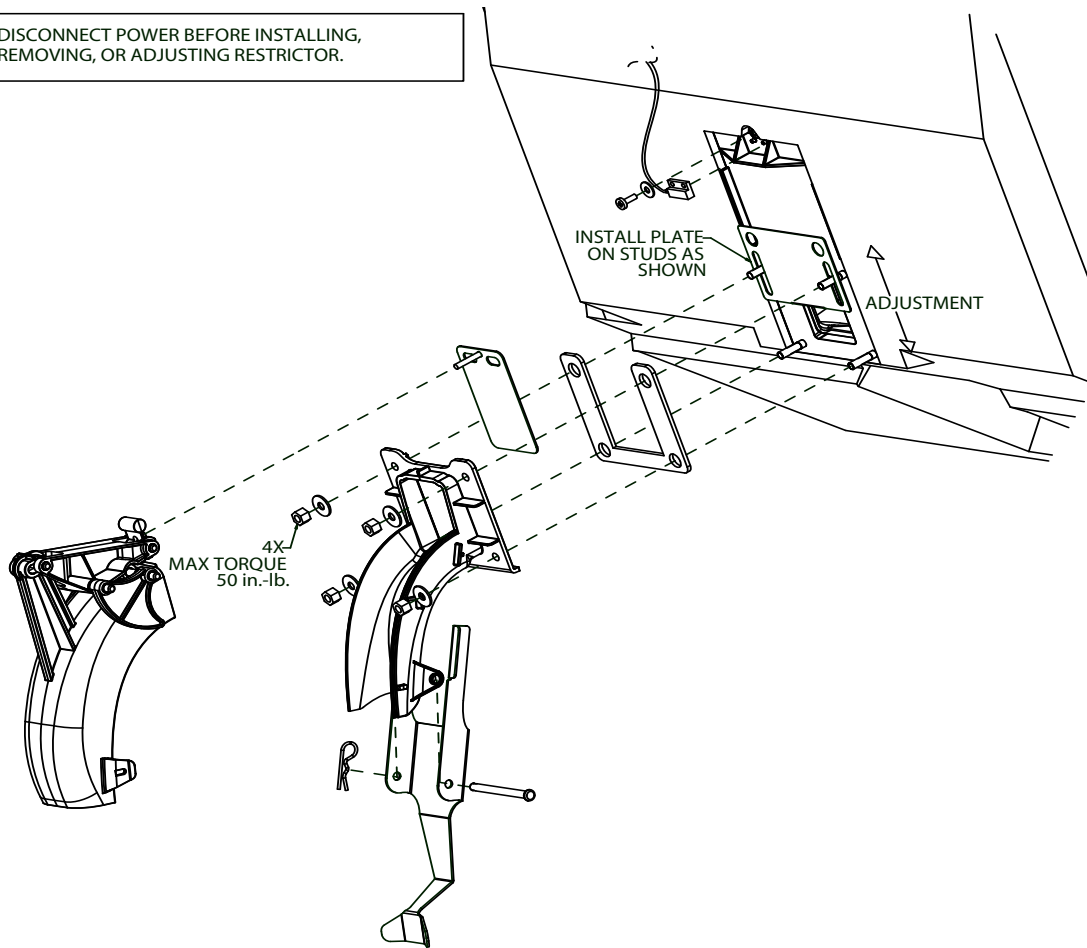

Figure 1. Gate Restrictor Plate
The rate at which ice is dispensed can be adjusted by varying the opening of the gate restrictor plate as illustrated in Figure 1. Reducing the dispense rate of ice is especially desirable when using glasses or other containers with small openings. To adjust the gate restrictor plate, loosen the (4) nuts that hold the ice chute assembly to the bin. The restrictor plate can now be moved up or down. When the restrictor plate is fully up, the ice gate opening is 2-1/2" in height, and the maximum rate of ice dispense is available (approximately 3 oz/sec). Retighten the (4) nuts to set the desired restrictor plate opening. **DO NOT EXCEED 50 IN-LB of torque.**